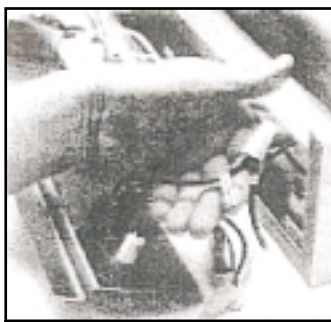

Figure 14
2. Trace the four wires from the power switch to the wire nuts. Code all wires connected by the four wire nuts to insure proper re-connection. (Fig. 14)